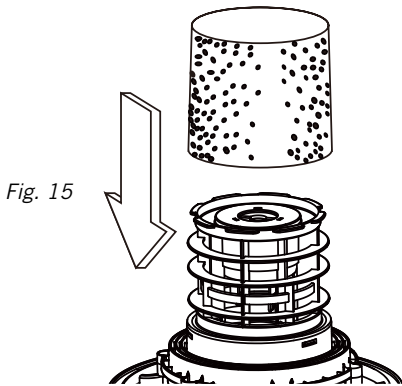

Fig. 15
24. Carefully slide the foam wet filter 19 down over the filter cage making sure the cage is completely covered. Fig. 15.